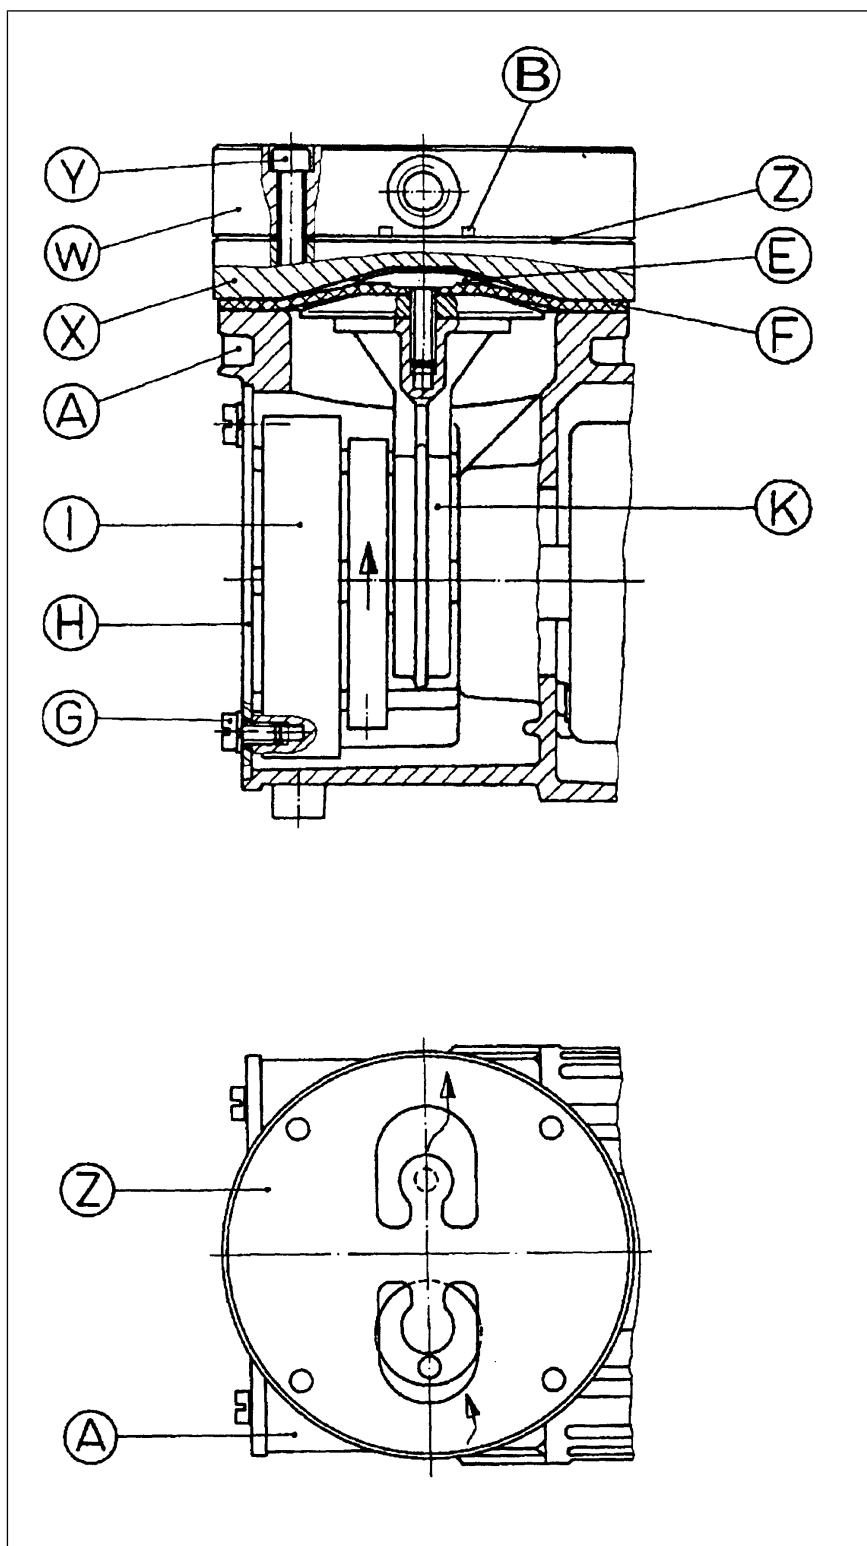

Fig.6 Pump parts for pump models with smooth heads and valve plate (elastomer, symbolic)
**According to Fig. 6
The following item numbers refer to Fig. 6.